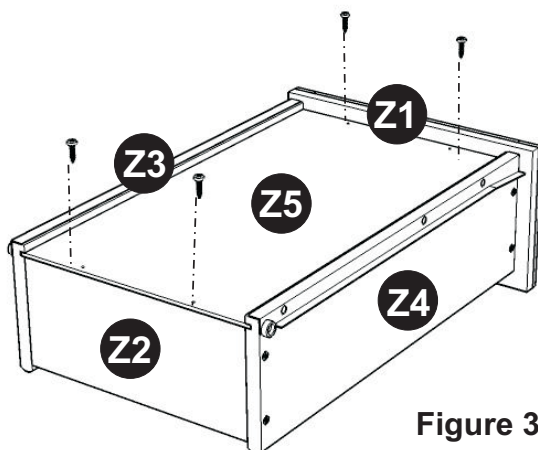

Figure 3
Attach Doors (U) and (T) by sliding the door lift hinges into the side panels lift hinges. (See figure 3)
Insert short wood screws (4X) into the pre-drilled holes in Z5, tighten screws. (see Figure 3)